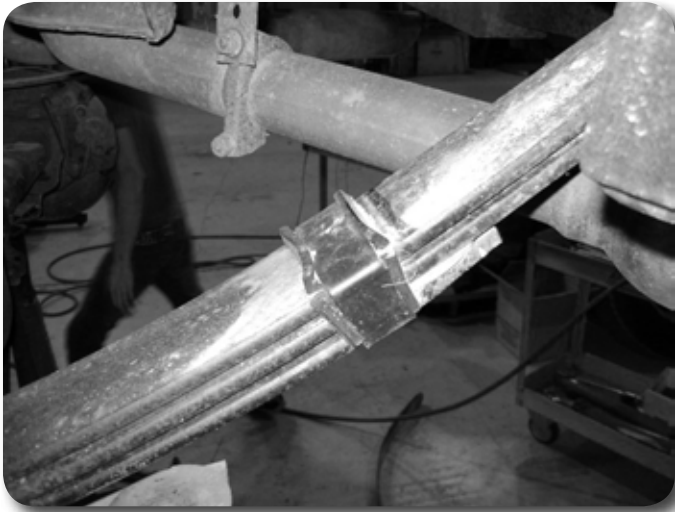

Figure 22
8. Remove the factory leaf alignment clamps. **Figure 22**